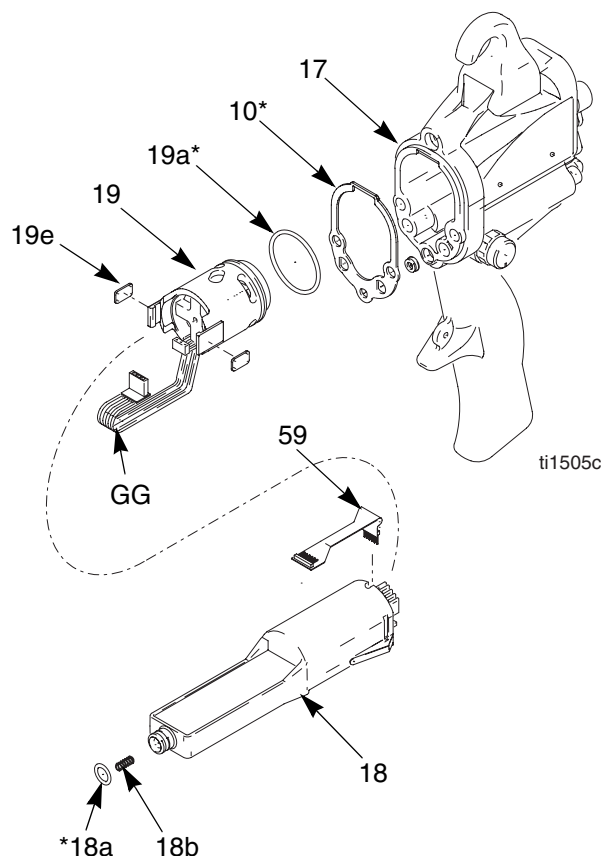

Fig. 17. Power Supply
3. Grasp the power supply (18) with your hand. With a gentle side to side motion, free the power supply/alternator assembly from the gun handle (17), then carefully pull it straight out. *On Smart Models only*, disconnect the flexible circuit (59) from the socket at the top of the handle (17). See FIG. 17..
4. Disconnect the 3-wire connector (GG) from the power supply. Slide the alternator up and off the power supply. Inspect the power supply and alternator for damage. *On Smart Models only*, disconnect the 6-pin flexible circuit (59) from the power supply.
6. *On Smart Models only*, connect the 6-pin flexible circuit (59) to the power supply.
7. Connect the 3-wire connector (GG). Slide the alternator (19) down onto the power supply (18).
9. Lubricate the power supply o-ring (18a*) with dielectric grease (40).
10. Insert the power supply/alternator assembly in the gun handle (17). Make sure the ground strips make contact with the handle. *On Smart Models only*, connect the flexible circuit (59) to the socket at the top of the handle. Push the 6-pin connector into the socket to ensure it is properly connected.
11. Install the barrel (16), page 30.